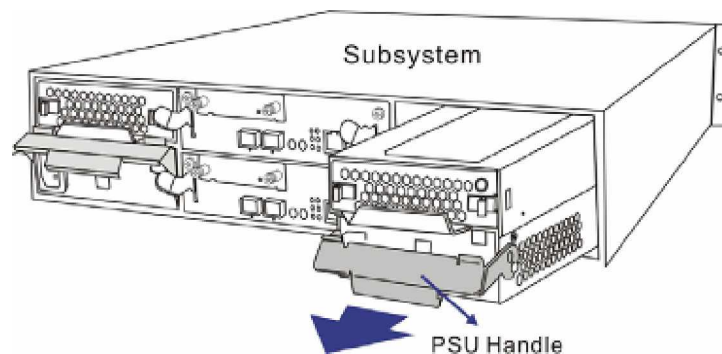

Figure 5-15: Dislodging the PSU
Step 5. Use the handle to *gently pull the PSU out of the enclosure*. (See *Figure 5-15*)